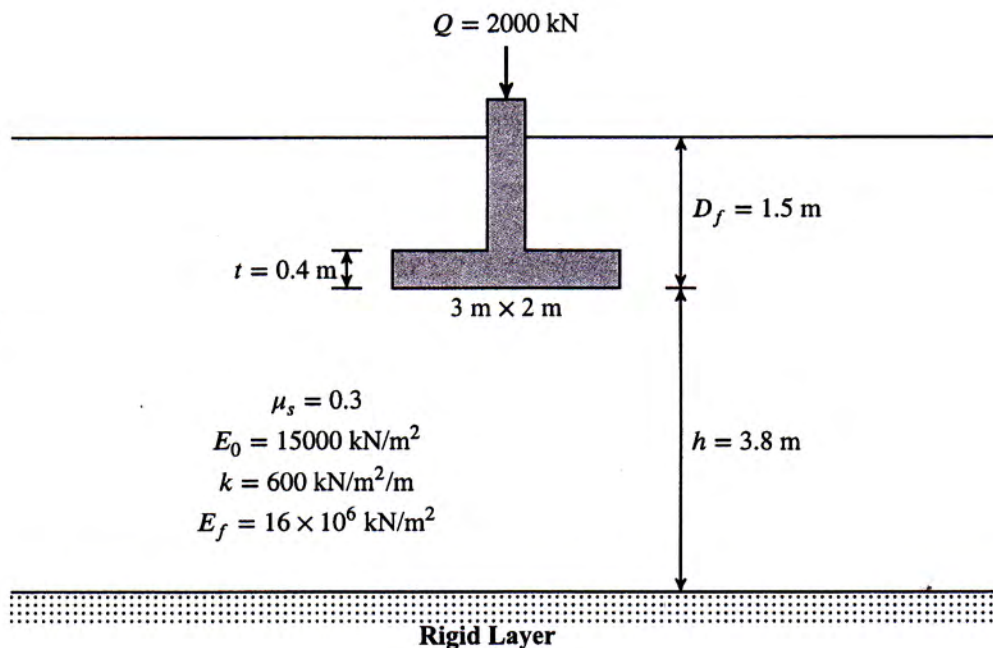

Figure 5: Question 3 (c)
- (b) Define the factor of safety of a slope with respect to strength. (3)
- (c) For the shallow foundation shown in the following figure (Fig. 5), determine the immediate settlement. (10 $\frac{2}{3}$)